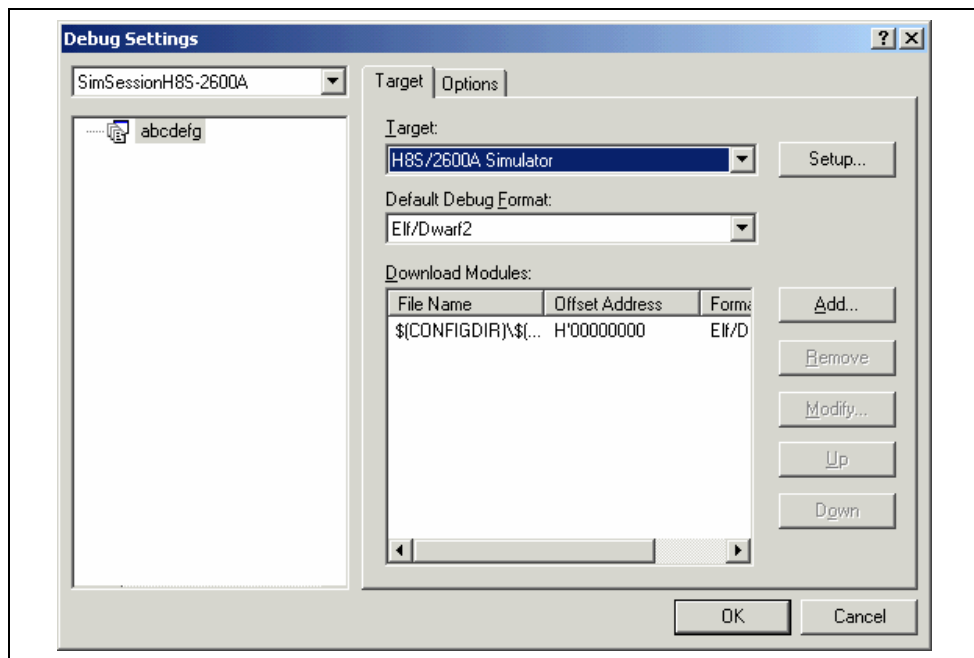

Figure 3.16 Debug Settings Dialog Box ([Target] Sheet)
It is also possible to manually choose the download modules after the project creation. This is achieved via the [Debug Settings] dialog box shown in figure 3.16. This dialog box allows you to control the debug settings throughout your workspace. The tree on the left of the dialog box contains all of the current projects. Selecting a project in this tree will then show you the settings for that project, and the session selection in the session drop-down list. Multiple sessions or all sessions in this list box can be selected. If you select multiple sessions, you can choose to modify the settings for one or more sessions at once. The [Debug Settings] dialog box displays the following debug options:
1. Select [Options -> Debug Settings...]. The dialog box shown in figure 3.16 will be displayed.